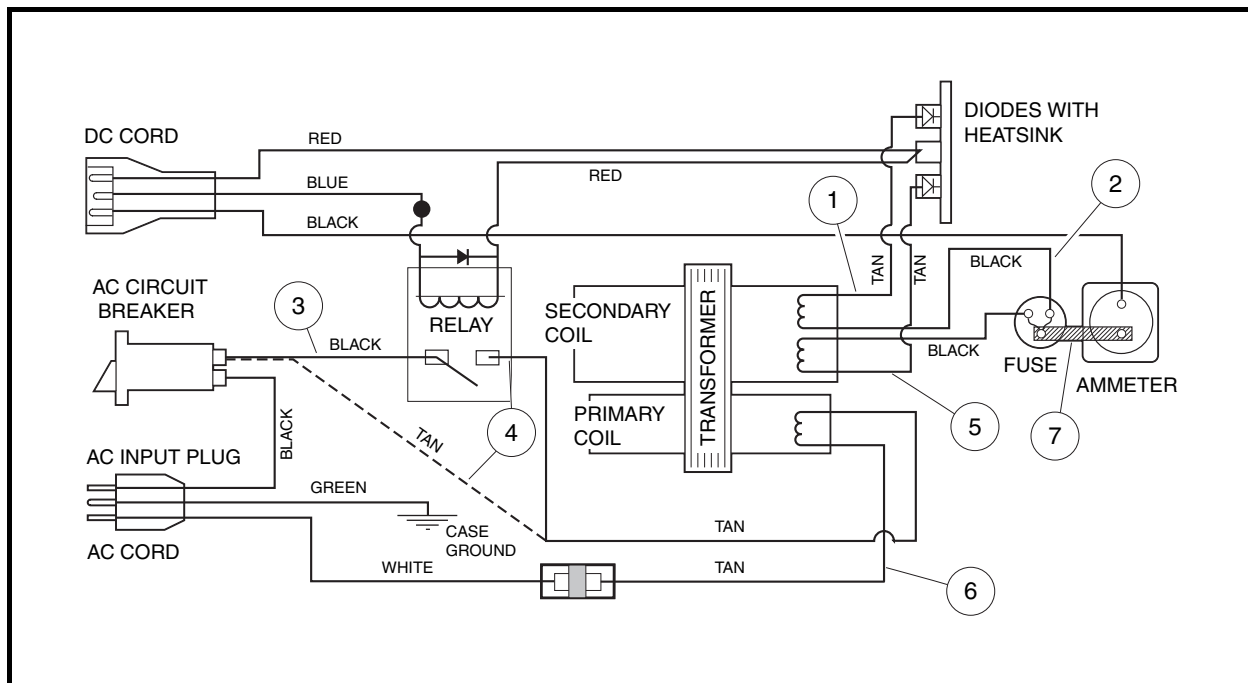

Figure 3-28 PowerDrive Charger Wiring Diagram (Relay Bypassed)
- 4.1. To bypass the relay, remove the black wire (3) from the AC circuit breaker and disconnect the tan wire (4) from the relay. Connect the tan wire (4) to the AC circuit breaker (Figure 3-28, Page 3-34). See following DANGER.
8. Disconnect the transformer wire (4) from AC circuit breaker and connect it to the relay. Connect the short black wire (3) from the relay to the AC circuit breaker (**Figure 3-28, Page 3-34**). **See following WARNING.**